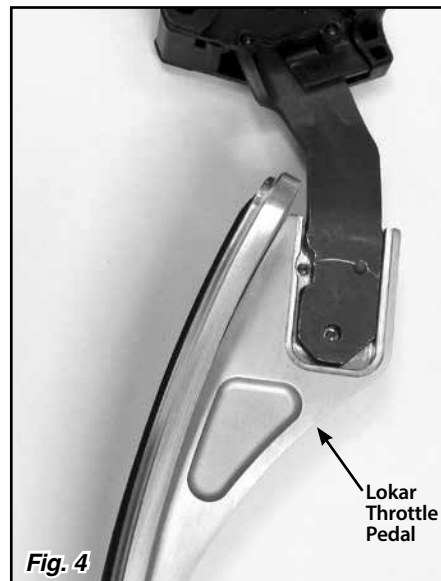

Fig. 4
Step 4: Position the Lokar throttle pedal onto the pedal position sensor arm so that the lower holes line up, and the upper screw hole in the pedal base lines up with the notch in the pedal position sensor arm. **Fig. 4**